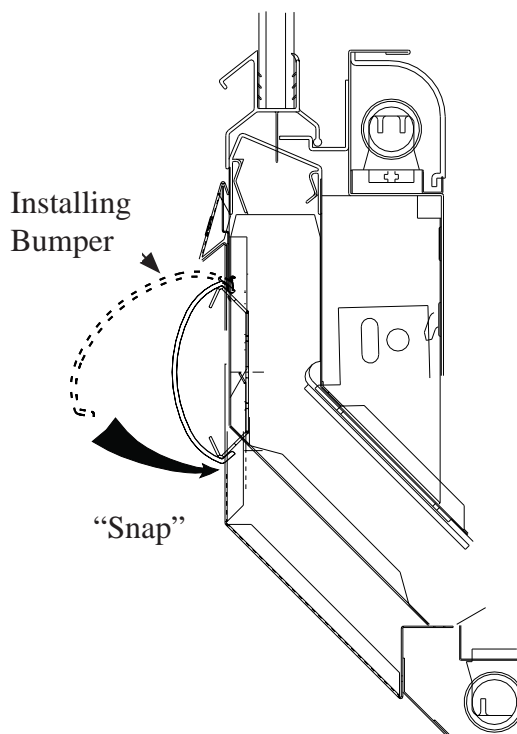

Figure 7. Installing Bumper onto Retainer
- A. *STARTING FROM LEFT END OF LINEUP*, insert 2 ft starter bumper into the front Top Bumper Retainer. See Figure 6. Swing Bumper down into position until it “snaps” into place on the bottom of the retainer. See Figure 7.